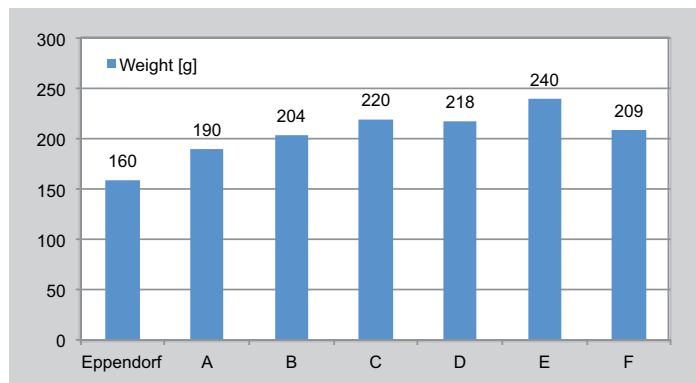

Figure 1: Comparison between Easypet 3 and competition in terms of total weight (with battery).
Easypet 3 features the lightest weight in relation to the other pipette controllers tested in the experiment (Figure 1), thus allowing efficient pipetting and maximum operating comfort during usage. Easypet 3 is 30 g lighter than its next lightest competitor (A) and 80 g lighter than the heaviest competitor device (E). As pipetting work is a repetitive task often carried out throughout a long period of time, the additional weight would impact negatively on the user's muscles, potentially contributing to RSI.